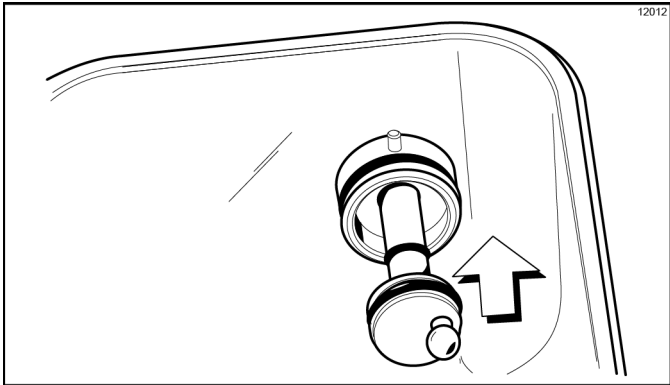

Figure 6-43
14. Install the hex end of the driveshaft into the drive hub at the rear wall of the mix hopper. (See Figure 6-43.)